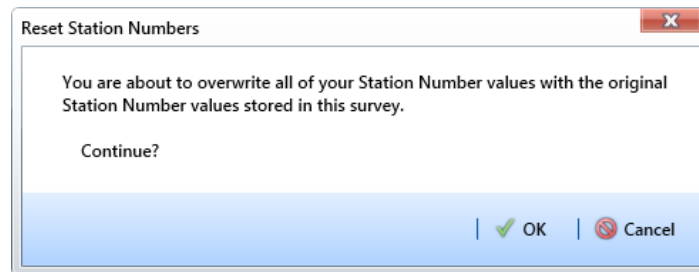

Figure 7-80. Reset Station Numbers
- 6 Click  **Apply**. When the *Reset Station Numbers* message displays, click  **OK** to reset all station numbers or  **Cancel** to cancel the operation (Figure 7-80).